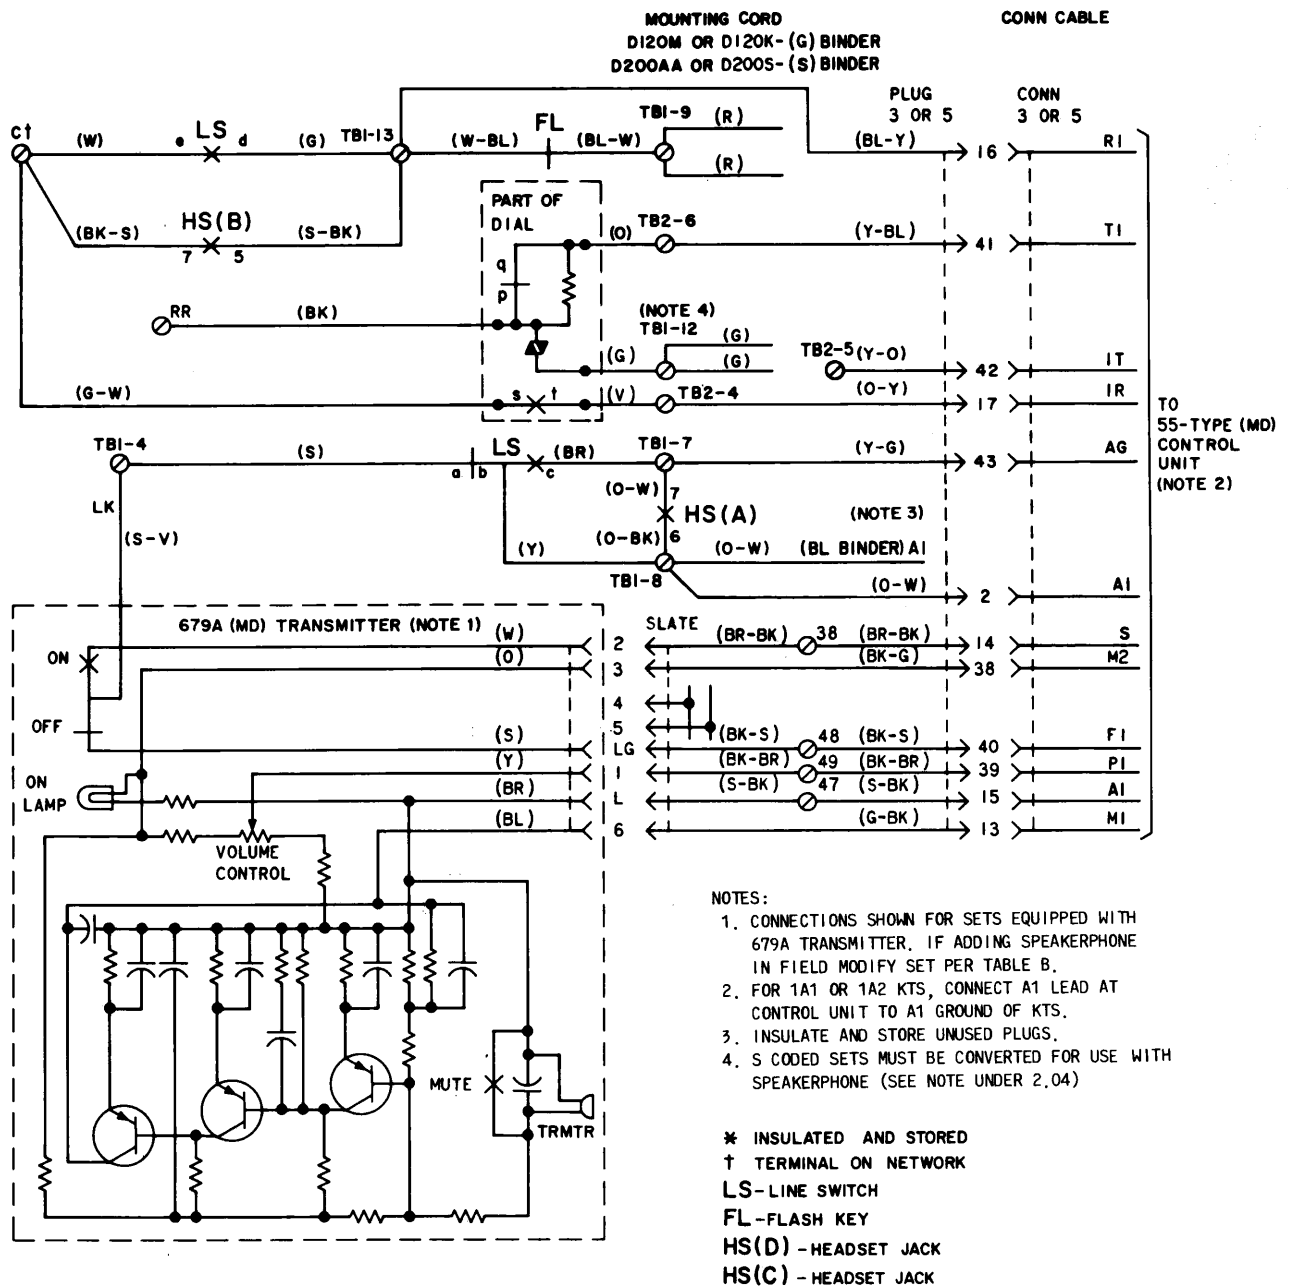

Fig. 5—Speakerphone Connections, Using Internal 679A (MD) Transmitter
2.04 Sets may be equipped for internal speakerphone by the addition of a 679A (MD) transmitter in the 3rd (2682AA) or 5th (2683AA) module. Figure 5 and Table B show wiring of sets with speakerphone when transmitter is internal using a 55-type (MD) control unit.♦
1. THE 635AD5C KEY IS SUPPLIED WITH AN ADAPTER IN THE CUTOFF KEY POSITION. SLATE MOUNTING CORD PLUG IN (BL) BINDER CONNECTS TO THE ADAPTER. BALANCE OF PLUGS CONNECT DIRECTLY TO KEY. CONNECT (BL-Y) AND (Y-BL) ADAPTER LEADS TO TERMINAL 1 AND 2, RESPECTIVELY, ON S CODED TELEPHONES TERMINAL 1 IS USED FOR THE NEW LINE SWITCH. CONNECT THE (BL-Y) ADAPTER LEAD TO THE (BL-Y) MOUNTING CORD LEAD USING A SPARE TERMINAL OR A D161488 CONNECTOR.
2. IN SETS EQUIPPED WITH A 698A KEY, THE (G) CONTACT STRIP LEAD IS TERMINATED ON 17 AND (R) ON 18. IF A 698A KEY IS ADDED IN THE FIELD, LEADS MUST BE MOVED FROM PRECEDING MODULE CHAINING CIRCUIT TO TERMINALS 17 AND 18.
5. MODULE MAY ALSO BE EQUIPPED WITH A 679A (MD) TRANSMITTER FOR INTERNAL SPEAKERPHONE. SEE FIG. 5 AND TABLE B.
7. REFER TO FIG. 5 FOR CONNECTIONS WHEN ASSOCIATED WITH 679A (MD) TRANSMITTER.
11. THESE CONTACT STRIPS ARE REQUIRED WHEN TELEPHONE SET IS EQUIPPED WITH THE D120K (MD) OR D200S(MD) MOUNTING CORD. THESE CONTACT STRIPS SHOULD NOT BE USED WHEN TELEPHONE SET IS EQUIPPED WITH THE D120M OR D200AA MOUNTING CORD OR WHEN TELEPHONE SET IS EQUIPPED WITH A MODIFIED D120K OR D200S MOUNTING CORD.